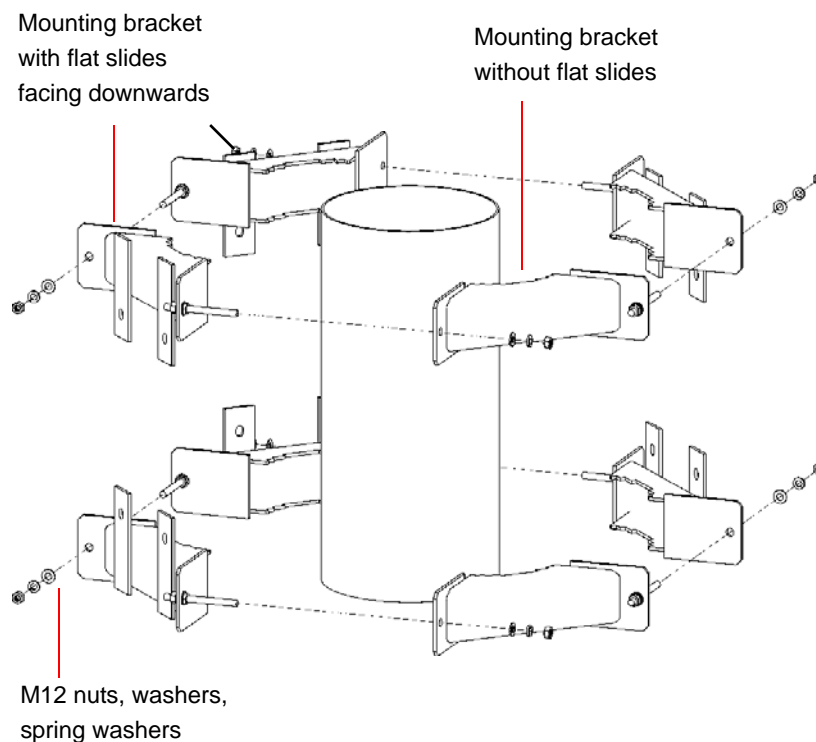

Figure 7: Assembling the Mounting Brackets
- a Assemble the four upper brackets, three brackets with the flat slides facing downward and one without it (see Figure 7). Tighten the screws.